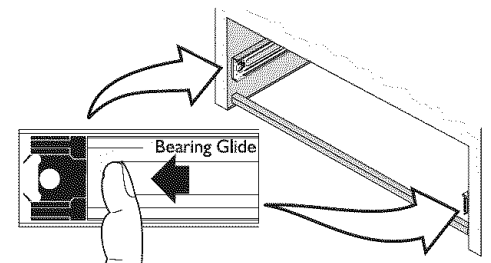

Fig. 2
1. Pull the bearing glides to the front of the range (see figure 2).